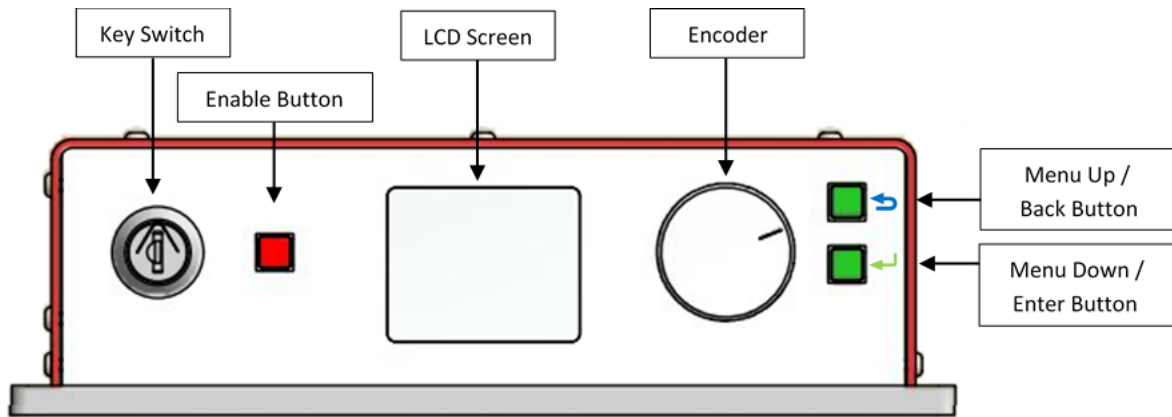

Figure 4-1
- 6 Using the Encoder and the Enter/Back buttons (see Figure 4.1) the operation current or power can be adjusted (see Front Panel Controls Section).